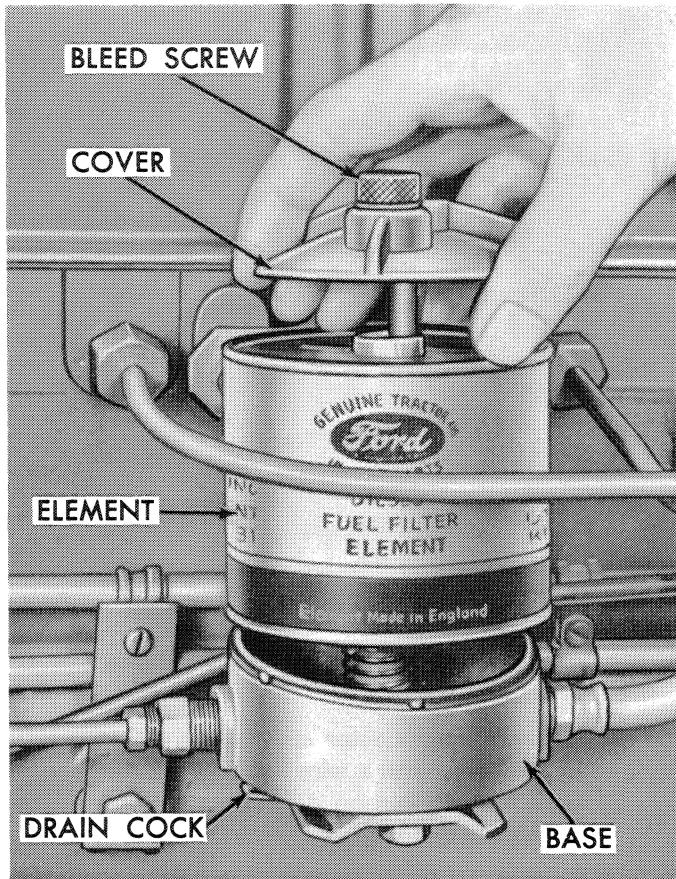

Figure 4—Servicing the Fuel Filter Element
2. Open the drain cock at the bottom of the fuel filter base, Figure 4. Close the drain cock when the fuel begins to flow.
3. Remove the cover assembly and filter element by turning the cover counterclockwise, Figure 4. The filter element is spring loaded and will raise from the filter base as the cover assembly is backed off. There are two element cork gaskets, one is located at the top and the other at the bottom of the element. Both gaskets and element should be discarded.